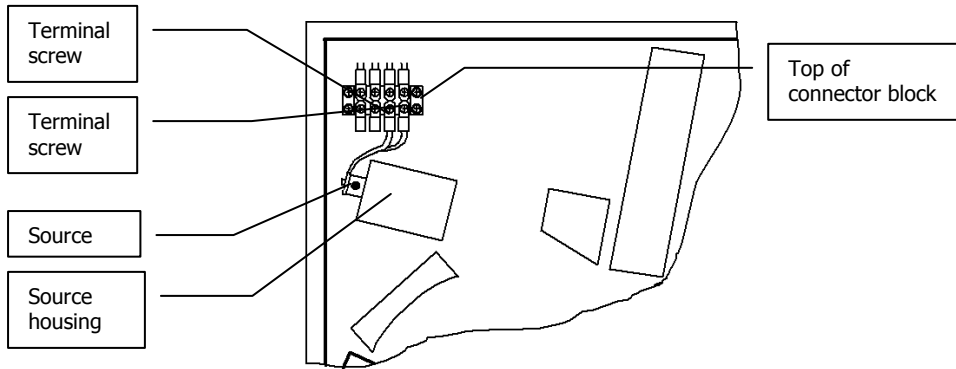

Figure 35 Terminal screws
2. Slacken the two terminal screws (Figure 35) securing the wires leading to the source. Disconnect the wires from the connectors.